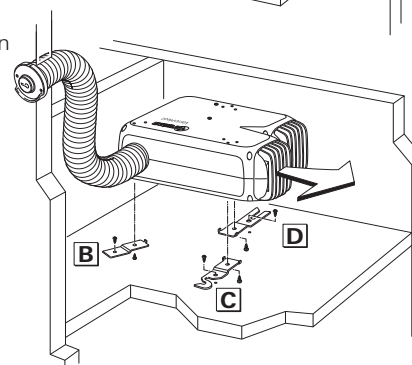

Fig. 10
- Use the supplied mounting brackets to install the heater (see „Fig. 10“ page 5). This ensures the required gap to the installation surface.